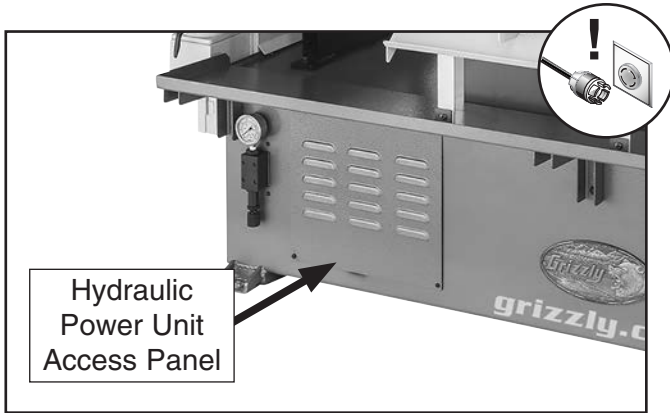

Figure 82. Hydraulic power unit access panel location.
3. Remove hydraulic power unit access panel (see **Figure 82**).